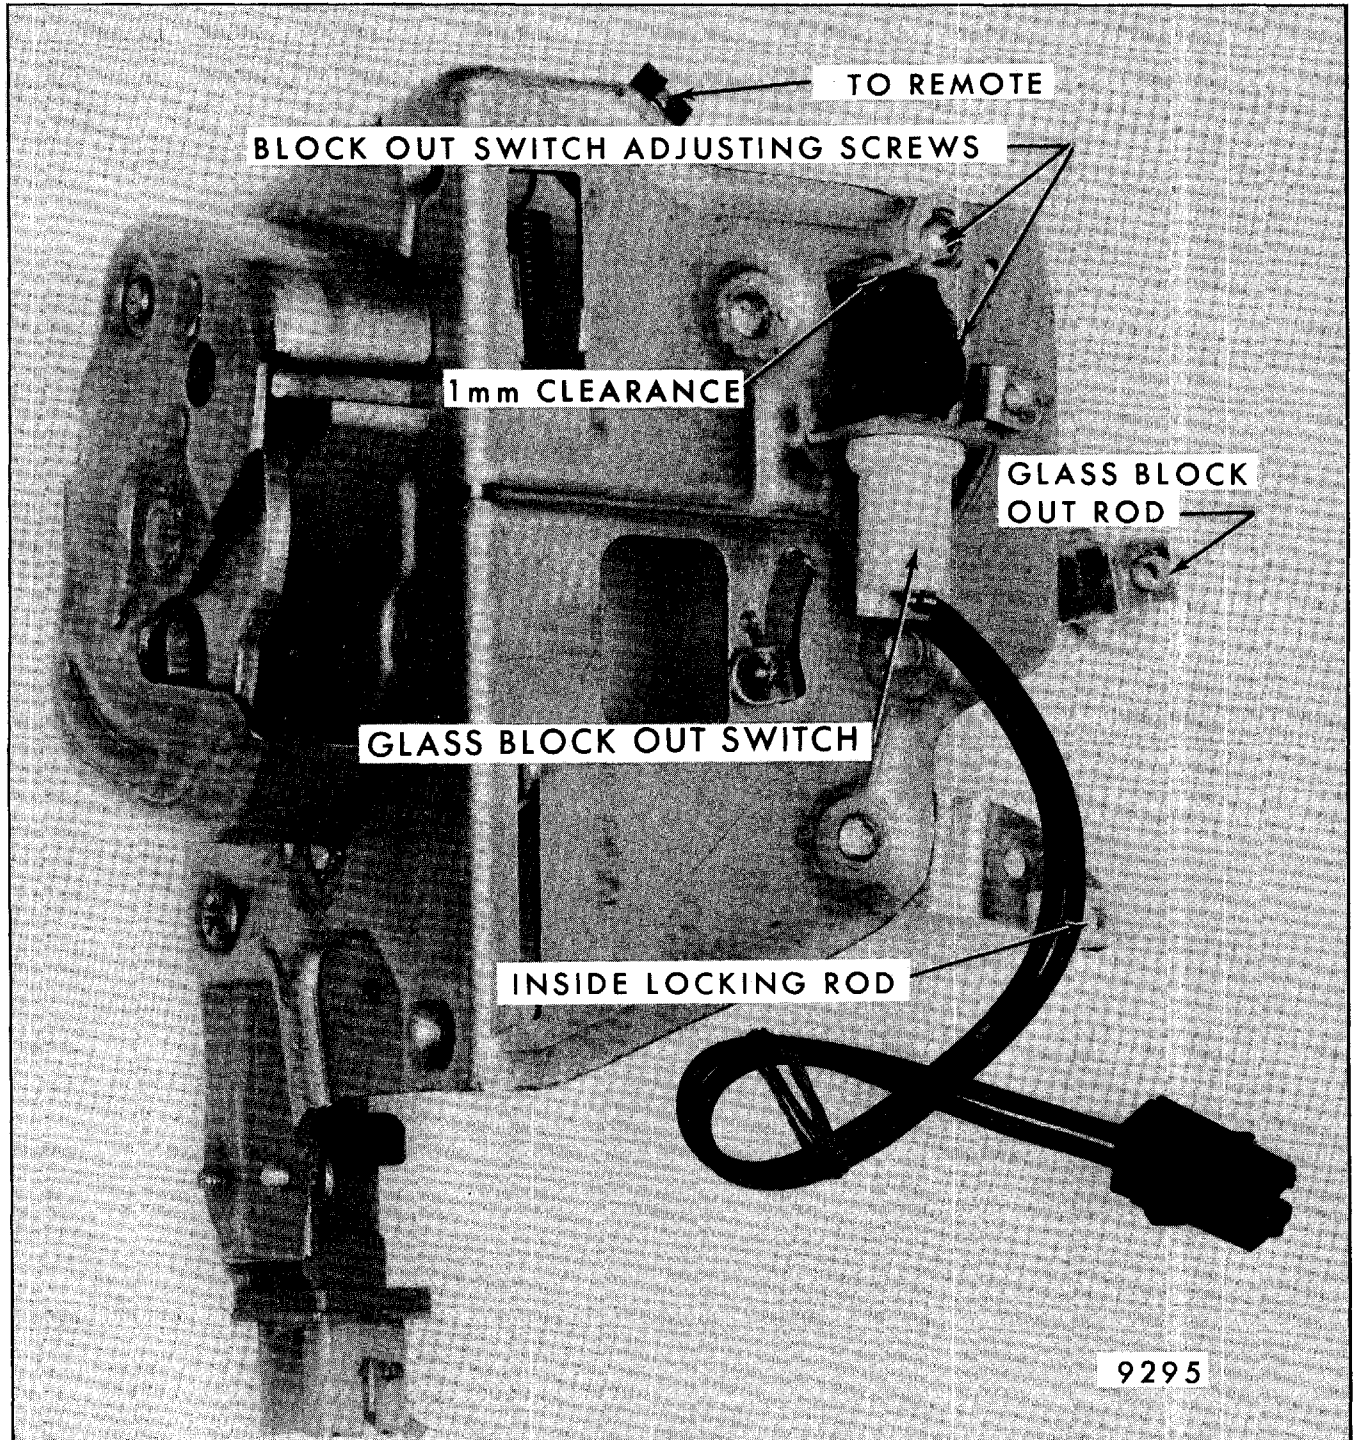

Fig. 7-131 - Tailgate Upper Right-Hand Lock Assembly
TAILGATE GLASS BLOCKOUT SWITCH (Fig. 7-131)
2. Adjust switch to achieve a 1 mm (.039") clearance between the blockout switch plunger and the locking lever (see Fig. 7-131).
TAILGATE RIGHT UPPER LOCK ASSEMBLY (Figs. 7-131 and 7-135)